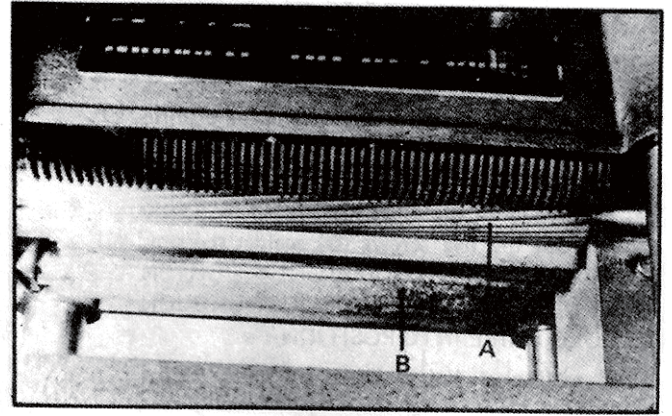

Fig. 28
The infeed roll (A) and outfeed roll (B) Fig. 28, are those parts of your planer that feed the stock while it is being planed. The feed rolls (A) and (B) are under spring tension and this tension must be sufficient to feed the stock uniformly through the planer without slipping but should not be too tight that it causes damage to the board. The tension should be equal at both ends of each roll.